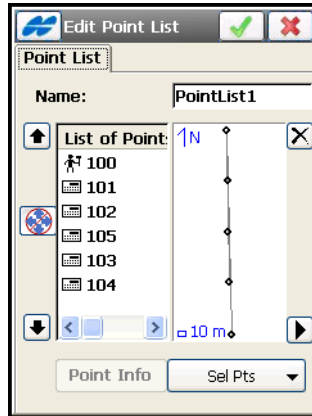

Figure 6-45. Edit Point List
- **Edit** – edits the properties of the selected List. The *Edit Point List* screen displays (Figure 6-45 on page 6-38).
The *Edit Point List* screen (Figure 6-45 on page 6-38) is similar to the *Add Point List* screen. The screen displays the points included in the list to edit and the plot interpretation.